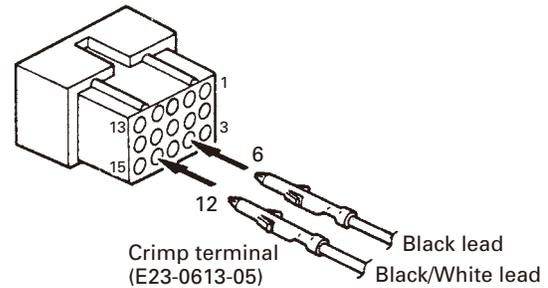

Fig. 1-3
3. Reinsert the terminal with the black and white stripe lead into hole number 12, and the terminal with the black lead into hole number 6. (Fig. 1-3)